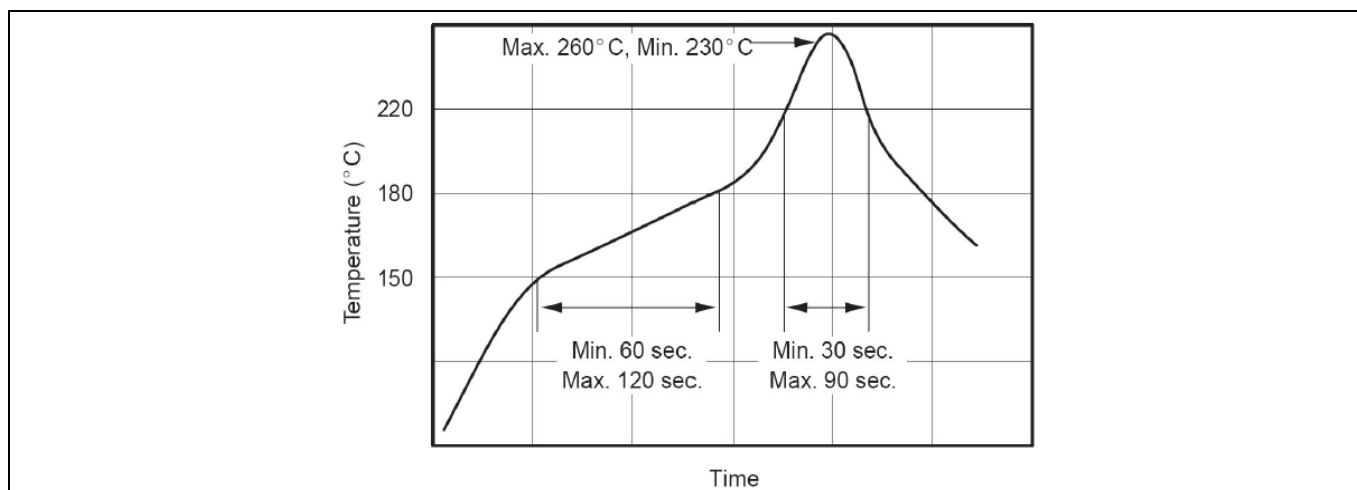

Figure 16 Typical reflow temperature profile for Pb-free paste
- All Infineon QFN devices are qualified at 260 °C reflow with Moisture Sensitivity Level 3. **Figure 16** and **Table 1** show a typical temperature profile for Pb-free (Sn-Ag-Cu or Sn-Ag) solder and the corresponding critical reflow parameters.